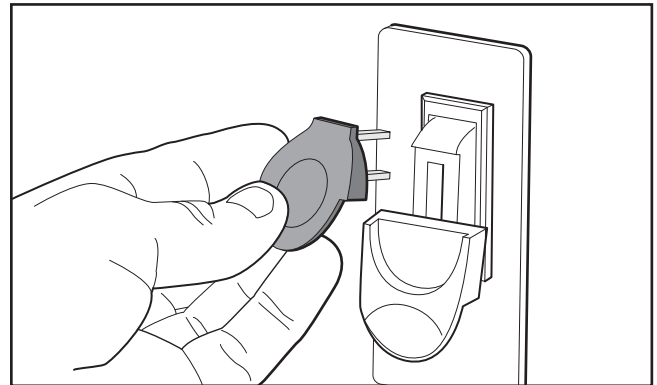

Figure 25. Removing switch key from ON/OFF switch.
4. Remove switch disabling key, as shown in **Figure 25**.